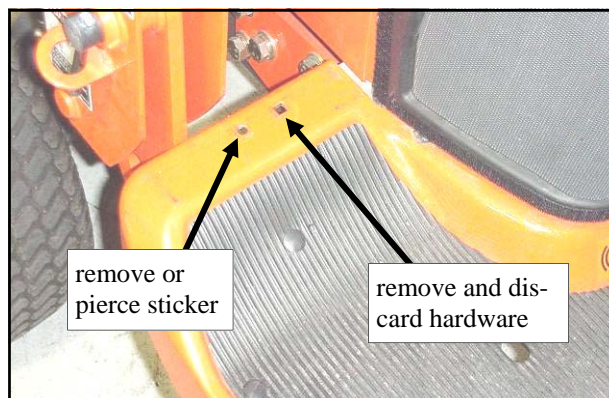

Fig. 7.1 (view from rear of left side)
**7.1** Per fig. 7.1, remove (or puncture) the sticker that hides an unused bolt hole and remove and discard the carriage bolt and locknut. Repeat for opposite side.